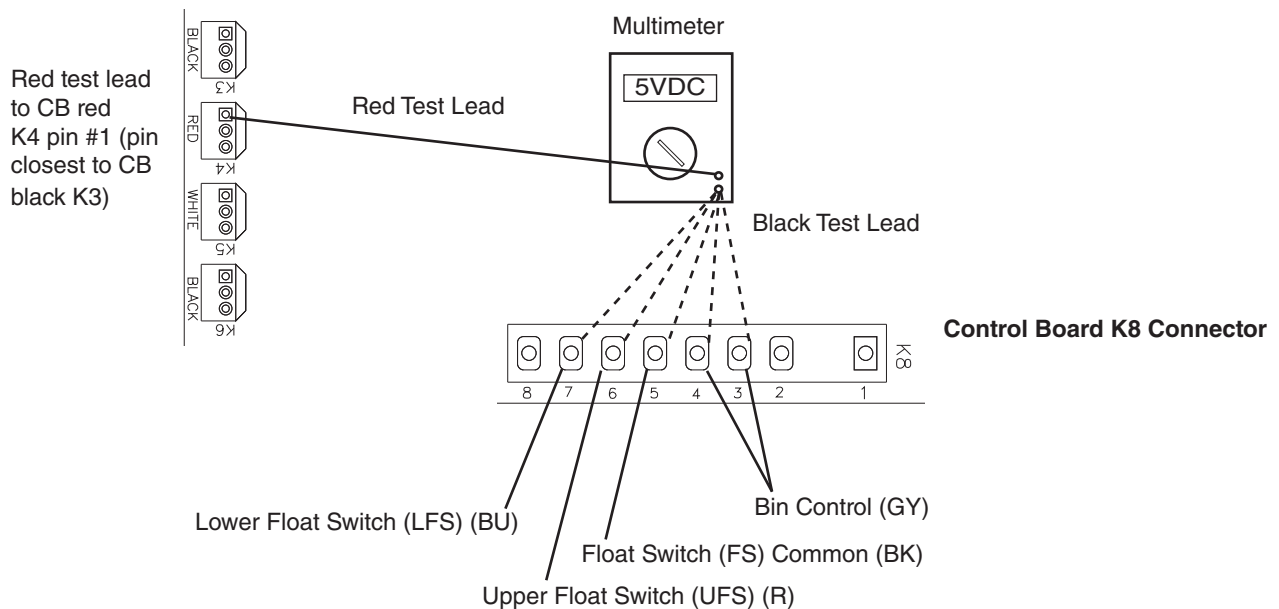

Fig. 2
(2) **5VDC CB K8 Connector:** See Fig. 2.
a) **Bin Control (BC)**